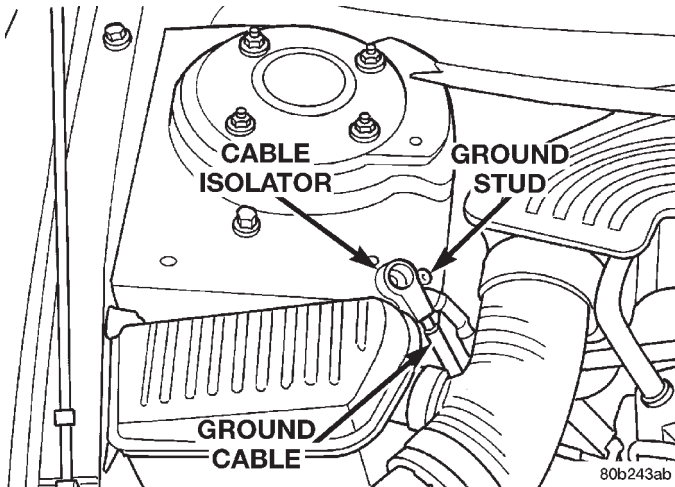

Fig. 16 Correctly Isolated Remote Ground Cable
(1) Remove the battery ground cable from the ground stud on the shock tower and isolate the ground cable by installing the cable isolator on the ground stud (Fig. 16).